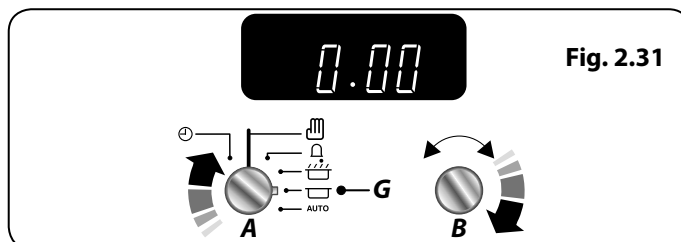

Fig. 2.31
2. Turn the **Timer (A)** knob to the **Stop Time (G)** setting (**Fig. 2.31**). The display will show the current time of day plus the 'cook time' you just set.